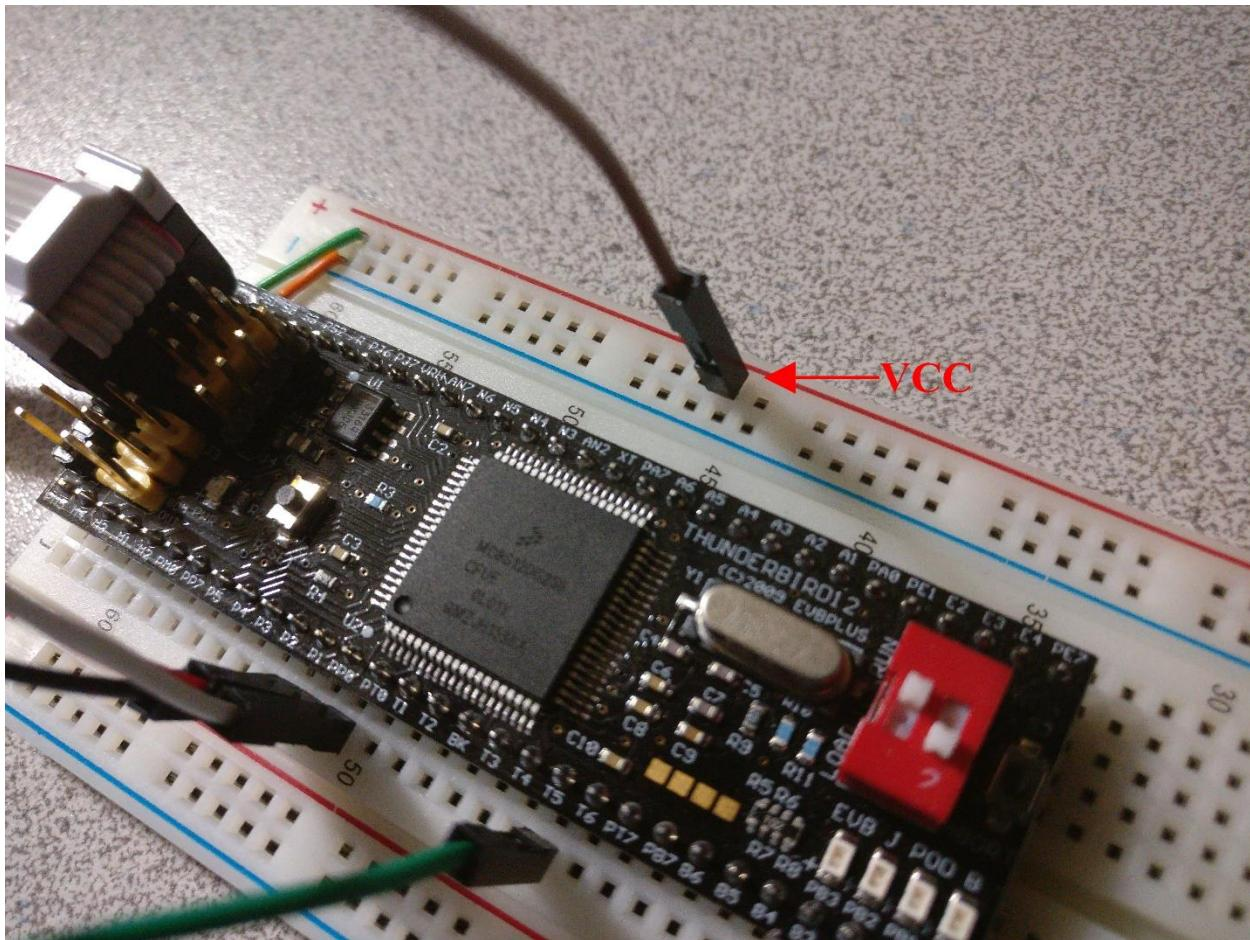

Figure 8-14 – RGB LED module connected to VCC
- c. Connect the VCC wire from the RGB LED module to the positive rail. Refer to Figure 8-14 for an example of what the wiring should look like.